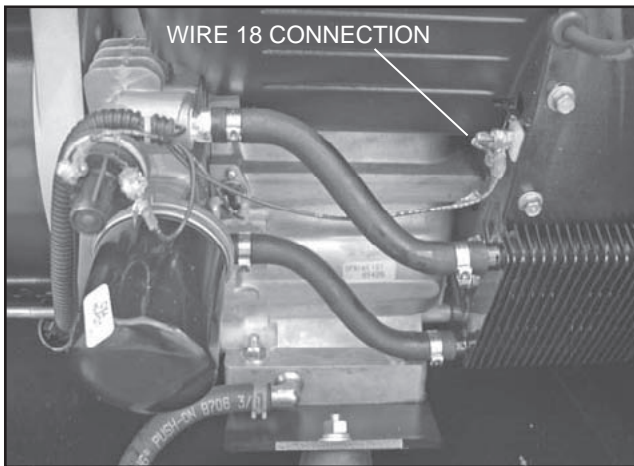

Figure 29. Wire 18 Connection 9/10/13/16/18 kW Units
1. On V-twin generators, remove Wire 18 from the stud located above the oil cooler. On single cylinder generators, disconnect Wire 18 at the bullet connector. See Figures 29 or 30.
- b. On single cylinder units, connect a jumper lead from the stud that Wire 56 is connected to on the Starter Contactor (SC) and 12 VDC Wire 15 at Fuse (F1). The generator will start cranking. As it is cranking, repeat Test 55.
1. Disconnect Wire 18 from the terminal connector located by the oil cooler (Figure 29).
- a. On V-twin generators, remove Wire 18 from the stud located above the oil cooler. See Figure 29.